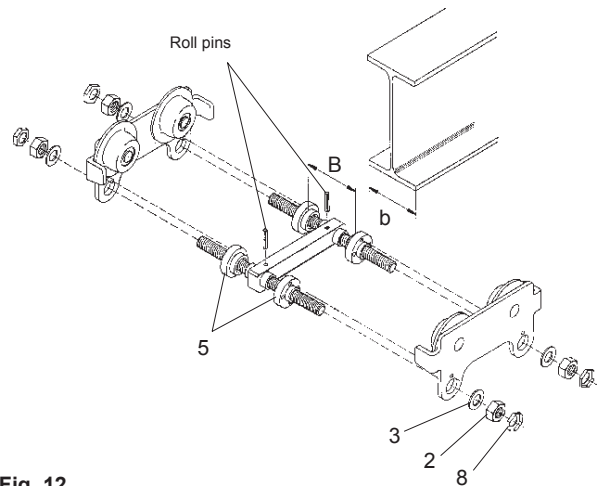

Fig. 12
Inspect the traverse for correct assembly and visually check for external defects, deformations, superficial cracks, wear or signs of corrosion. In particular check that the roll pins in the centre traverse have been fitted correctly (fig. 12)
**Fitting the trolley (see fig. 12)**
- 1.) Unscrew the locking nuts (pos. 8) and securing nuts (pos. 2) from the traverses (pos. 1) and remove the side plates (pos. 6).
3.) Adjust the measurement "B" between the shoulders of the round nuts (pos. 5) on the threaded traverses (pos. 1).